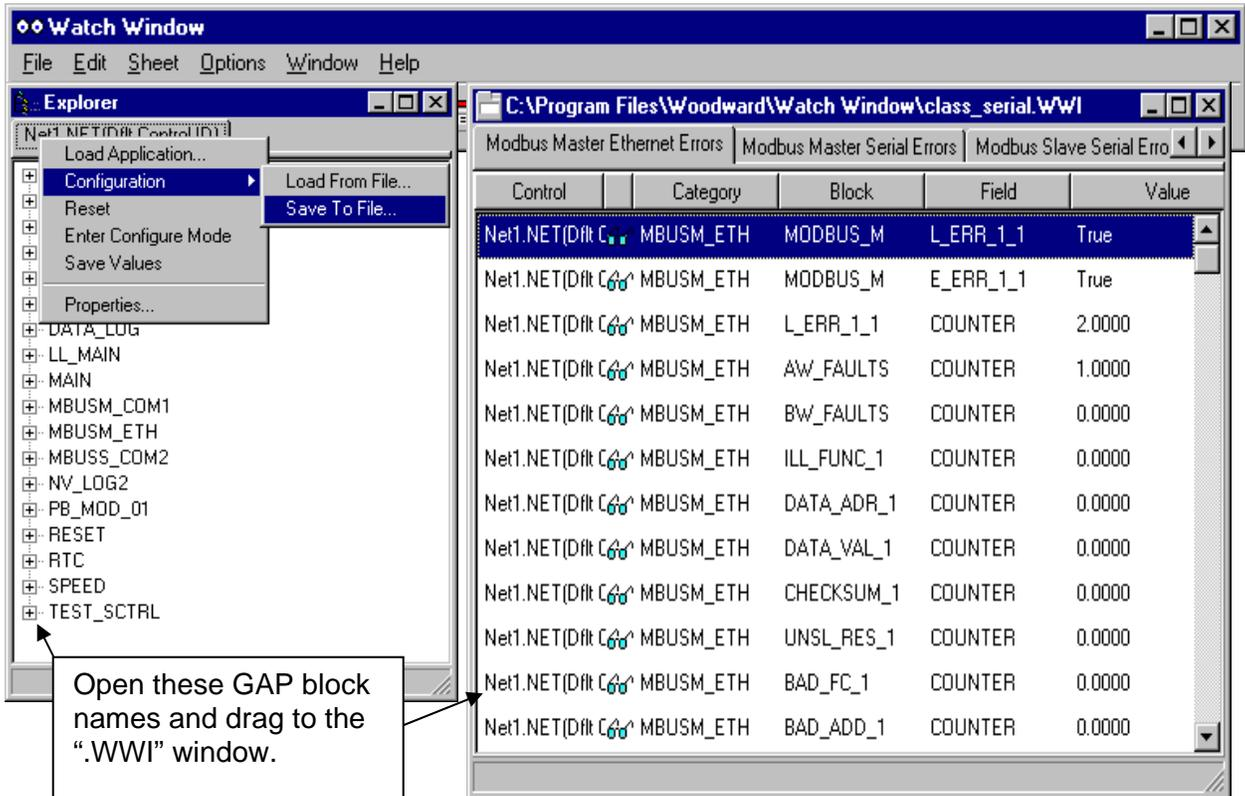

Figure 4-2. Watch Window Screen
5. Open Watch Window Professional or Standard. See Figure 4-2. Open a New file. You can Add sheets and build the window.
Watch Window is supported on the AtlasPC, but certain functions are not. In order to use certain functions some procedures must be followed for them to work correctly. If a right mouse click is performed on the .net file tab under the left “Explorer” window, the following functions are displayed (see Figure 4-2):